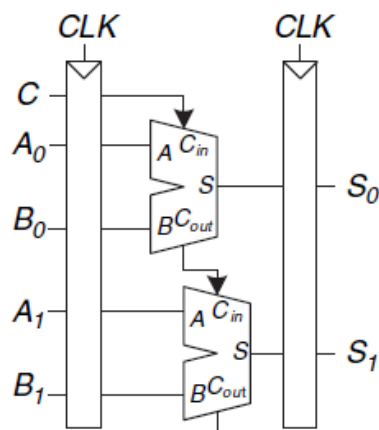

Figure 3.75 2-bit adder schematic
Exercise 3.34 You are designing an adder for the blindingly fast 2-bit RePentium Processor. The adder is built from two full adders such that the carry out of the first adder is the carry in to the second adder, as shown in Figure 3.75. Your adder has input and output registers and must complete the addition in one clock cycle. Each full adder has the following propagation delays: 20 ps from C_{in} to C_{out} or to Sum (S), 25 ps from A or B to C_{out} , and 30 ps from A or B to S . The adder has a contamination delay of 15 ps from C_{in} to either output and 22 ps from A or B to either output. Each flip-flop has a setup time of 30 ps, a hold time of 10 ps, a clock-to- Q propagation delay of 35 ps, and a clock-to- Q contamination delay of 21 ps.